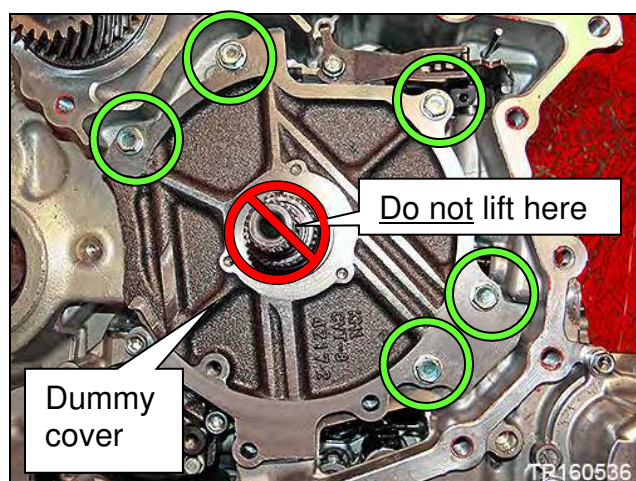

Figure 19C
13. Remove the five dummy cover bolts, and then remove the dummy cover. See Figure 19C.
- Lift the dummy cover from sides **ONLY**. Do NOT lift from the input shaft (Figure 19C). This can lift the clutch pack out.